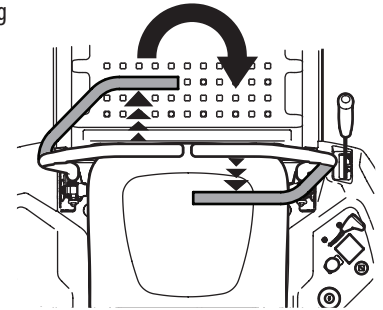

Figure 34
2. To turn clockwise, move the left lapbar drive control lever forward while simultaneously moving the right lapbar drive control lever rearward. See Figure 34.